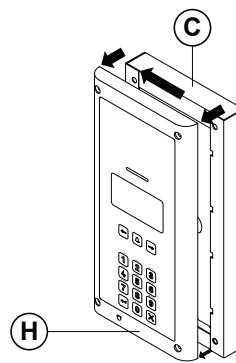

Fig. 55
6. Pull back the module support frame **(H)** from the surface box **(C)** while moving it slightly to the left, following the guide arrows, as shown in **Fig.55**;